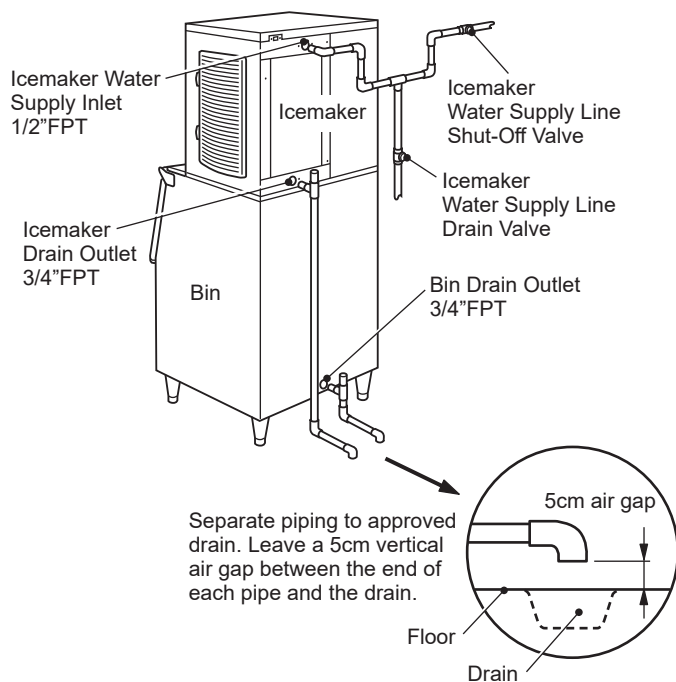

Fig. 7
- \* A vented tee connection is required for proper drain flow. See Fig. 7.
- \* The icemaker drain line must be run separately from the storage bin/dispenser unit drain line. See Fig. 7.